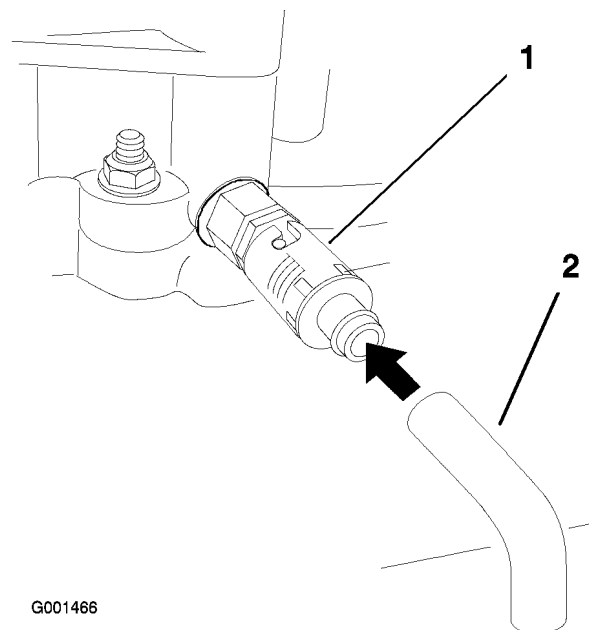

Figure 33
- Place a pan below the drain hose. Rotate oil drain valve to allow oil to drain (Figure 33).
- Remove the drain hose (Figure 33).